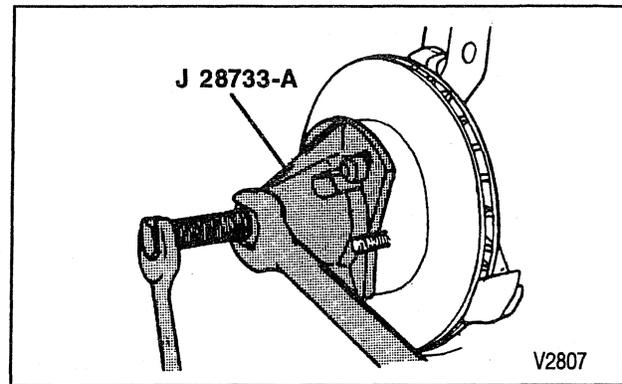

Figure 11—Splined Shank and Knuckle Separation
13. Knuckle assembly using J 28733-B or equivalent and separate outer C/V joint splined shank from knuckle hub (Figure 11).